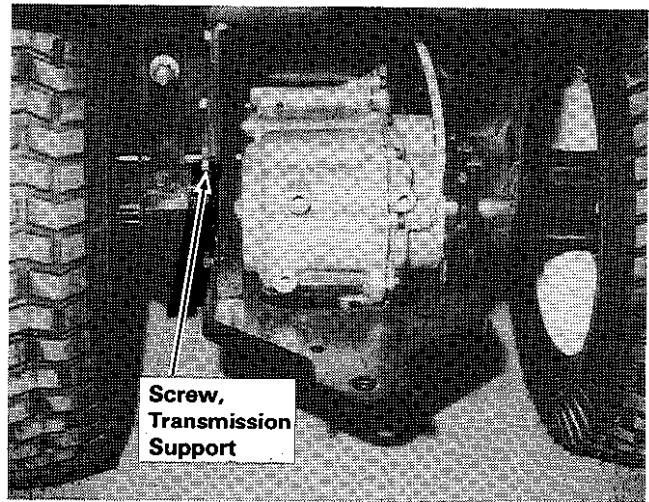

Figure 6.
- a. Remove and discard the rear-most screw from the transmission support (figure 6).